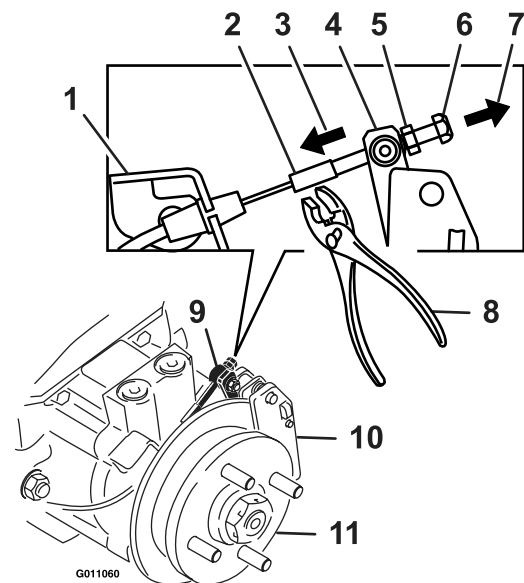

Figure 30
9. Hold the threaded rod end with a tool and loosen the lock nut away from the standard nut (see Figure 30). Do Not allow the cable to turn when the nuts are being loosened.
10. Remove all slack from cable by pulling on the caliper lever arm with a medium amount of force. Using hands and fingers only, push the caliper lever arm to engage the brake pads on the rotor until the lever stops. While holding the lever at the stopped position, use the other hand or fingers to pull the slack out of the cable threaded end through the swivel. Spin the standard nut against the swivel (see Figure 30).